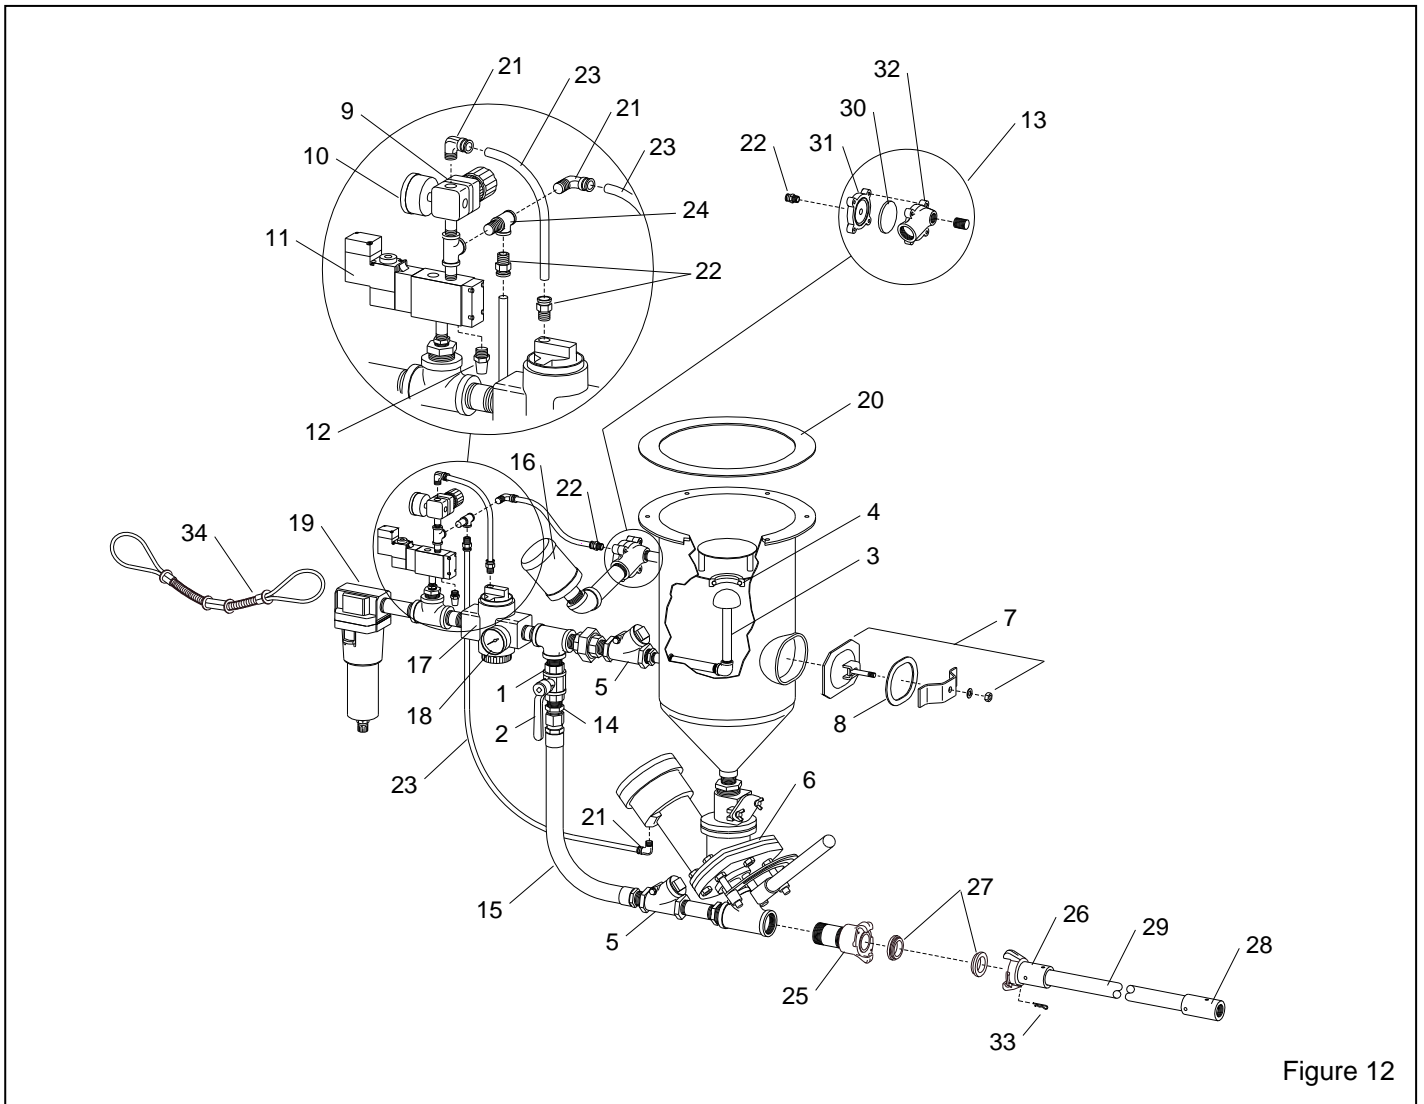

Figure 12
**8.2 Blast Machine, Figure 12**